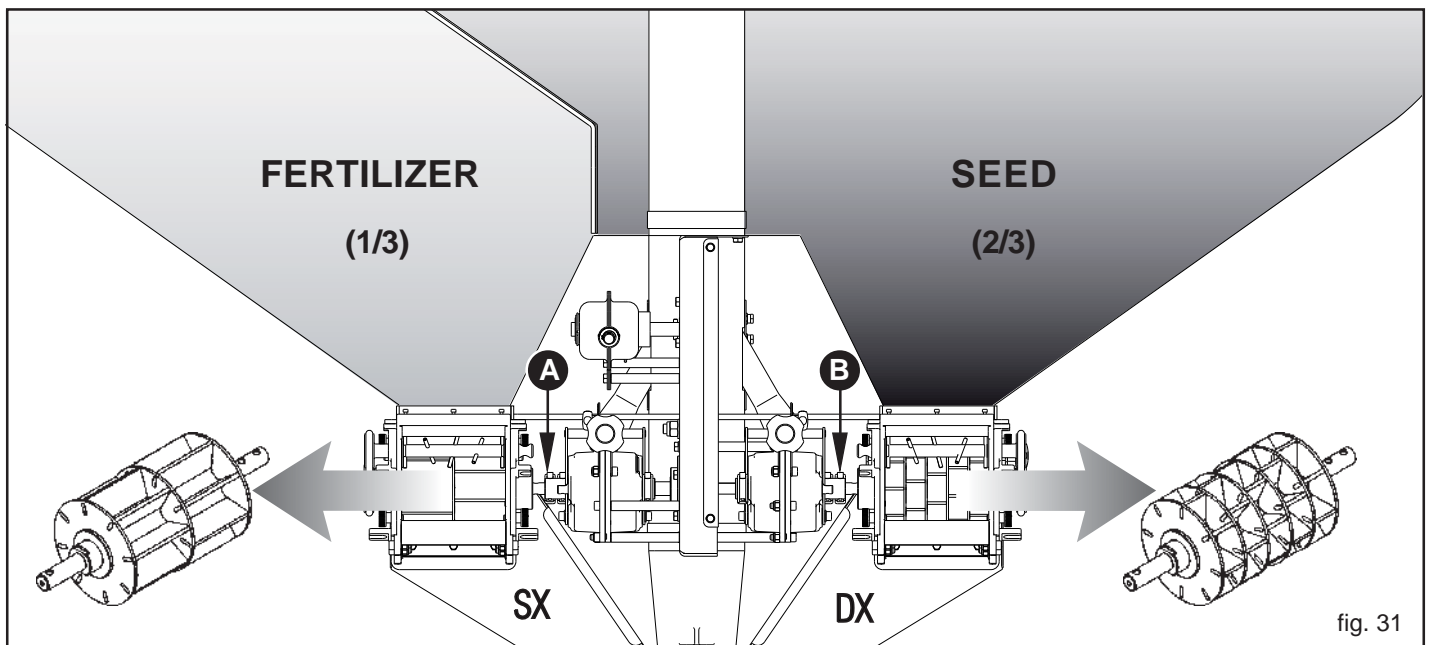

fig. 31
Figures 31 and 32 show the two possible configurations for seed/fertilizer distribution:
- 1) SEED-FERTILIZER (Fig. 31);
The hopper is divided into two compartments: the capacity of the seed compartment equals 2/3 of the total capacity; that of the fertilizer or seed compartment, depending on the configuration in use (Fig. 31 and 32), is 1/3 of the total.
## 3.4.4.1 SEED-FERTILIZER CONFIGURATION (Fig. 31)